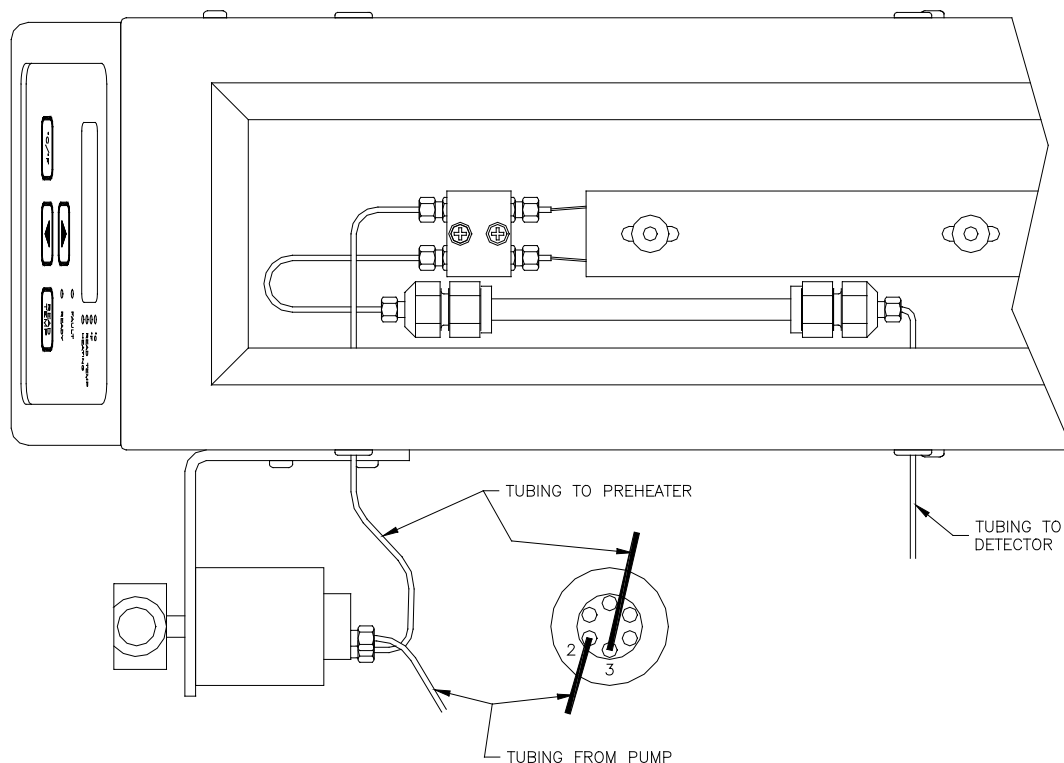

Figure 2-4. Interior View of Oven with Manual Operation Showing Preheater, Column, and Injection Valve Installed
4. Make the connection from port 3 of the injector (the injector outlet) to the preheater block inlet (see Figure 2-4) using CPI type fittings. Make the connection as short as possible using narrow bore tubing (.007 in. I.D.).